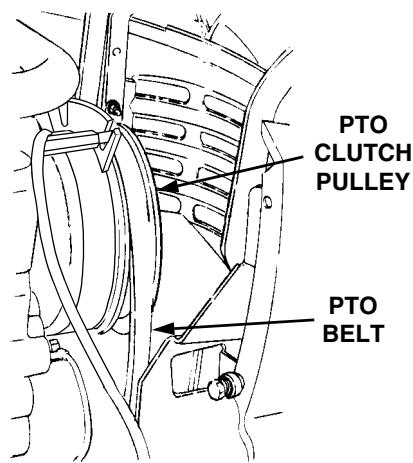

Figure 36
- Open the tractor hood and remove the forward end of the PTO belt from the PTO clutch pulley on the front of the engine (See Figure 36).